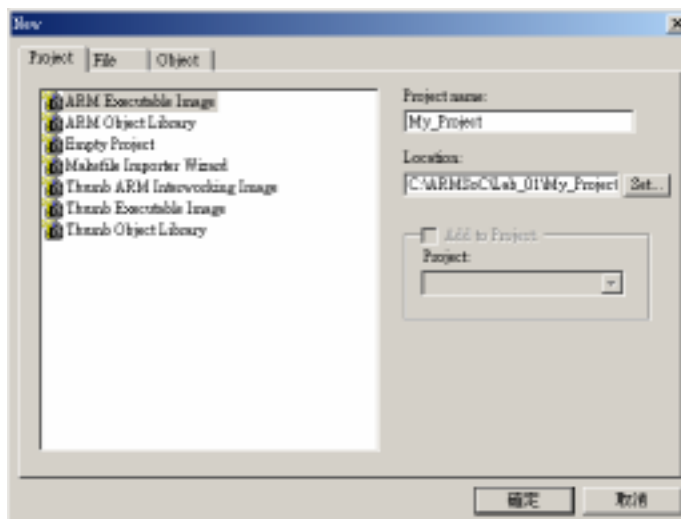

Figure 5. Setting project name and location path.
4. Set the directory where you want to save the project in the **Location** field or click the **Set...** button (a **Create New Project** dialog is displayed) next to the **Location** field to navigate to the directory **c:\ARMSoC\Lab_01**. Enter a project name, for example **My_Project**. A result is shown in Figure 5.